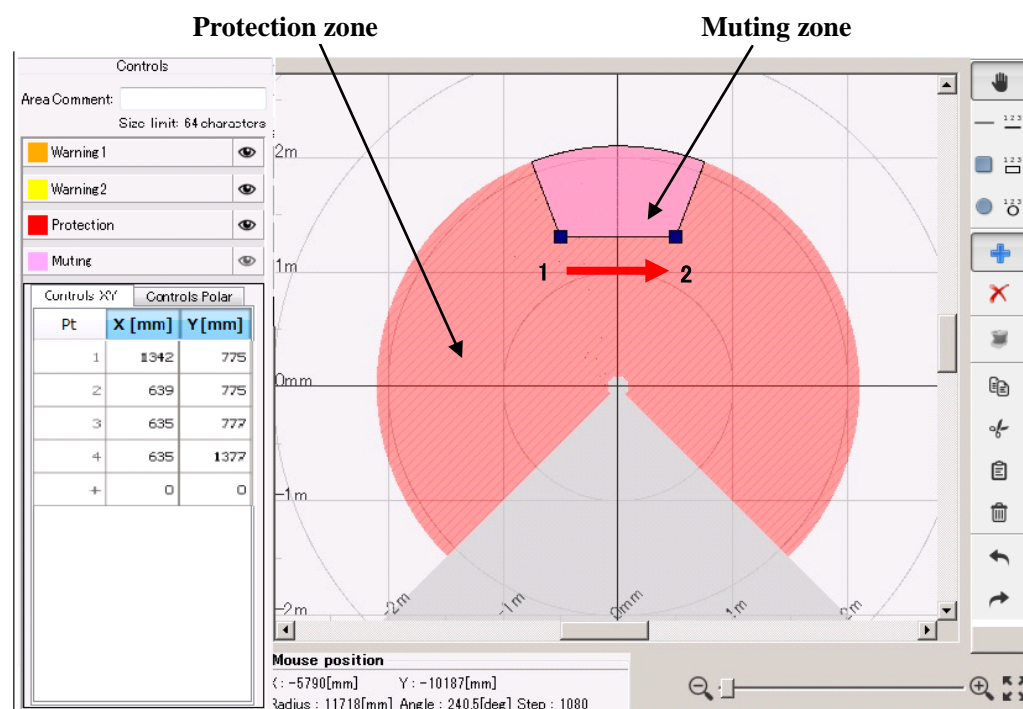

Figure 7-47 Muting zone configuration example 1
- Figure 7-47 and 7-48 shows an example of the muting zone configuration. Region in pink represents the muting zone.